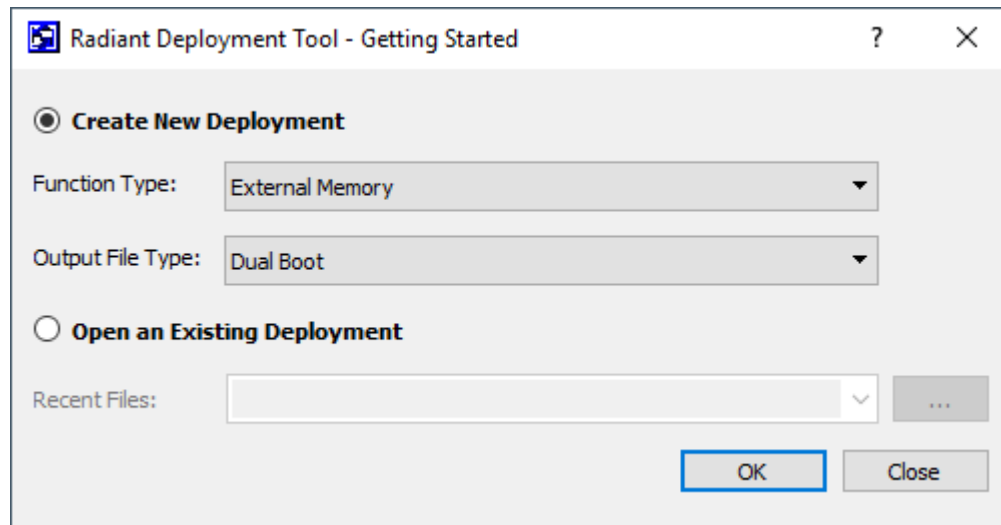

Figure 6.1. Creating New Deployment for Dual Boot PROM Hex File
- In the Radiant Deployment Tool window, select External Memory as the Function Type and select Dual Boot as the Output File Type (Figure 6.1).